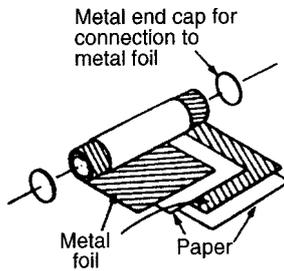

Figure 6.15
3. Paper capacitors. A typical paper capacitor is shown in Fig. 6.15 where the length of the roll corresponds to the capacitance required. The whole is usually impregnated with oil or wax to exclude moisture, and then placed in a plastic or aluminium container for protection.